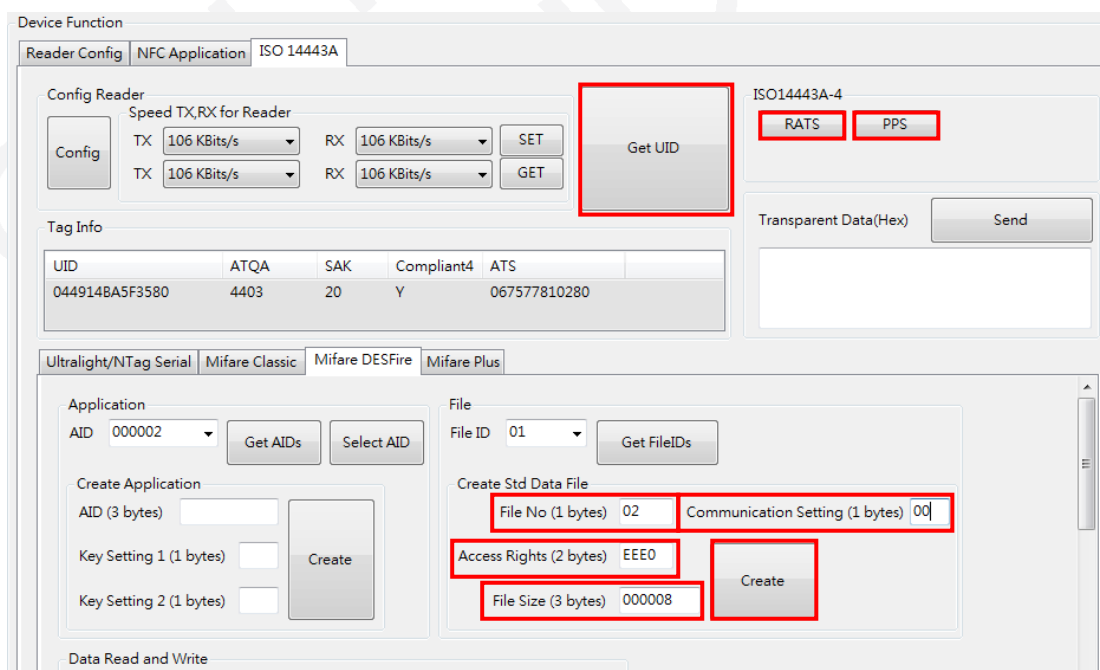

Figure 8.5-1 Create StdDataFile
8. Click “Create StdDataFile” button to create files for the storage of plain unformatted user data within an existing application on the PICC, as shown in Figure 8.5-1.